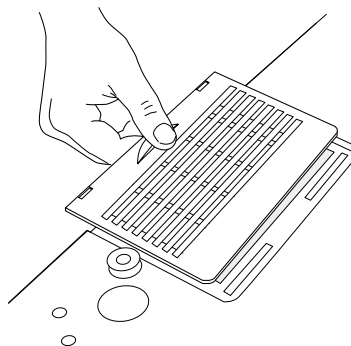

FIGURE 26
- 2 Remove the filter door (Figure 26).